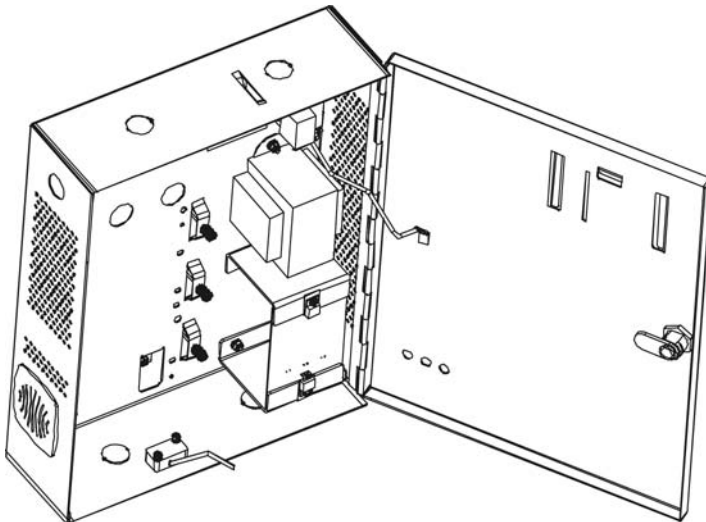

Figure 30: ME-01 Unit Mounting and In-Box Connections
5. Mount the MU or EU board in the enclosure using the spacers supplied and connect the in-box power and backup battery as shown in Figure 30, on page 40